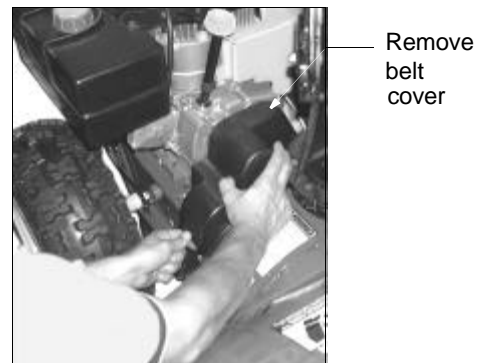

Figure 16
1. Remove the plastic belt cover on the front of the engine by removing the two self-tapping screws. See Figure 16.